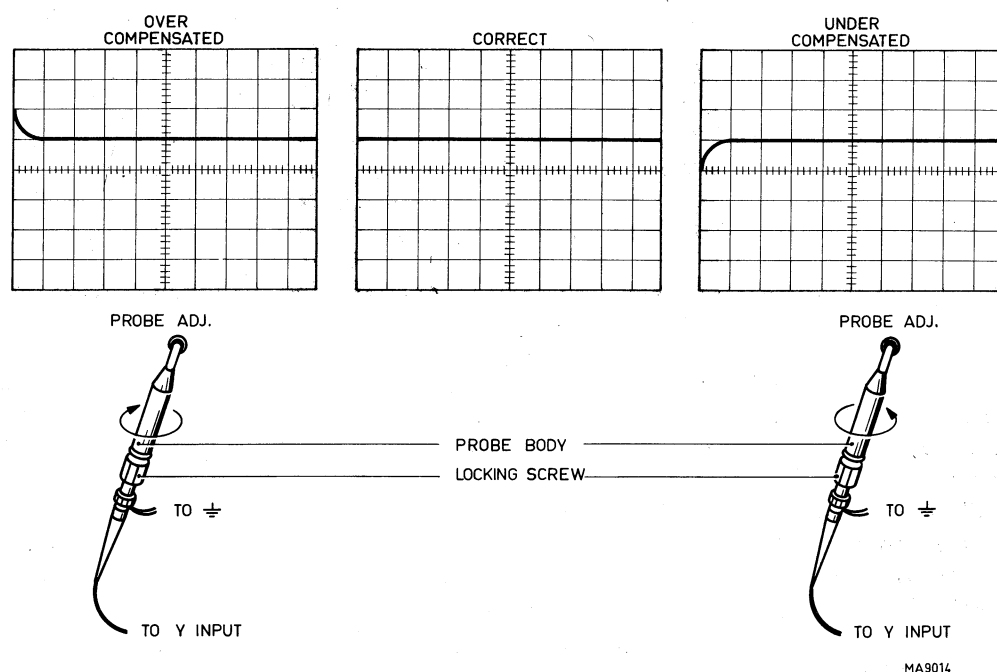

Fig. 1.2. Matching the attenuator probe PM 9326/40 to the oscilloscope input.
- Unscrew the probe locking nut by turning it anti-clockwise (see Fig. 1.2.).
- Rotate the probe body to change capacitance, in the same time watching the display for the desired waveform (see Fig. 1.2.).